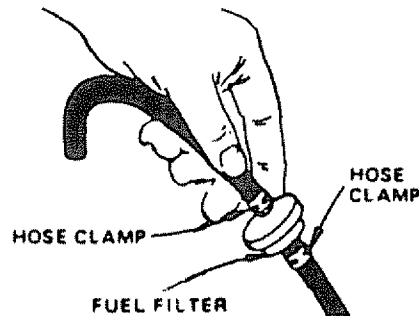

FIGURE 26
- With engine cool, remove filter and plug fuel line sections as removed from both ends of fuel filter (Fig. 26)